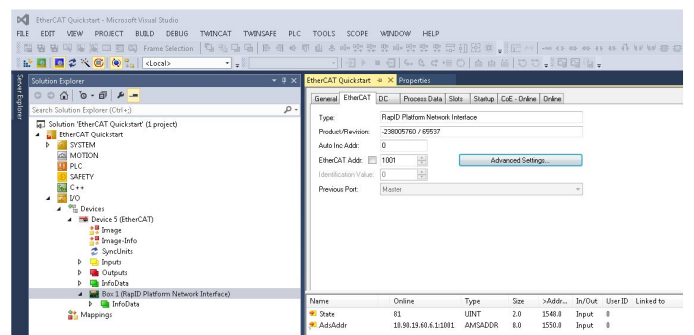

Figure 20. EtherCAT Tab
2. Click **Advanced Settings** (see Figure 20).